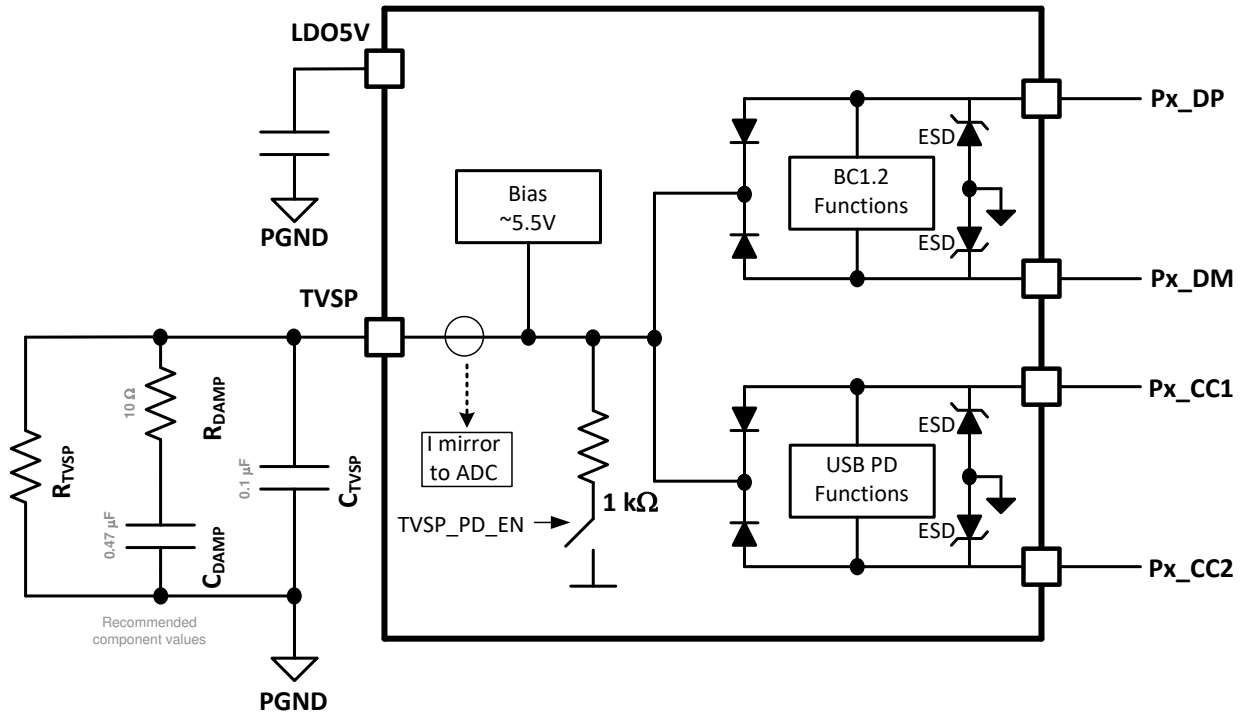

图 9-4. Basic TVSP Pin Connection
- **R_{TVSP} :** At power on, the resistance between the TVSP pin and PGND determines the boot method, USB PD port I²C addresses and I²C logic thresholds. Refer to 表 9-3. The most common configuration is shown in 图 9-4 with R_{TVSP} open, corresponding to TVSP Index 0. During device initialization and boot, typically within 4 seconds after power on, V_{IN} must be above 7.6 V to ensure proper bias of the TVSP pin to 5.5 V. Once boot is complete the device can operate over the full V_{IN} range.